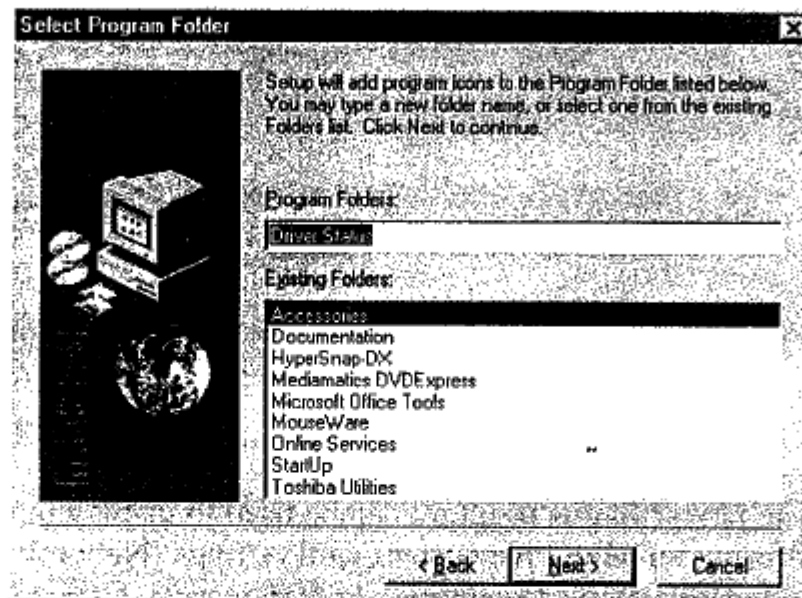

Figure 4-10
5. "Driver Status Setup" program will add the program icon to the "Program Folder". You may enter a new folder name or select one from the existing Folder list. Click "Next" to select a default "Driver Status" program folder as shown in Figure 4-10.